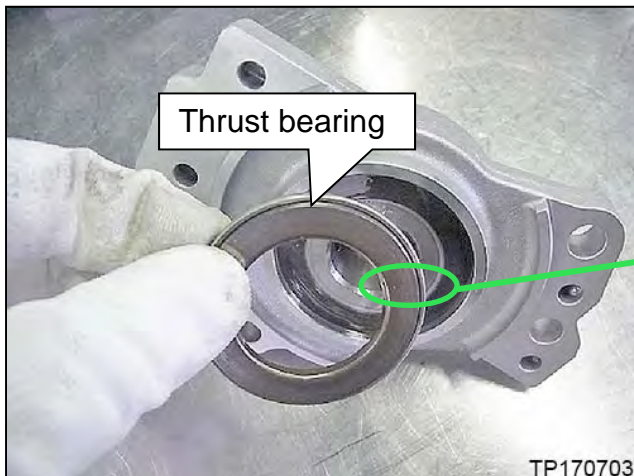
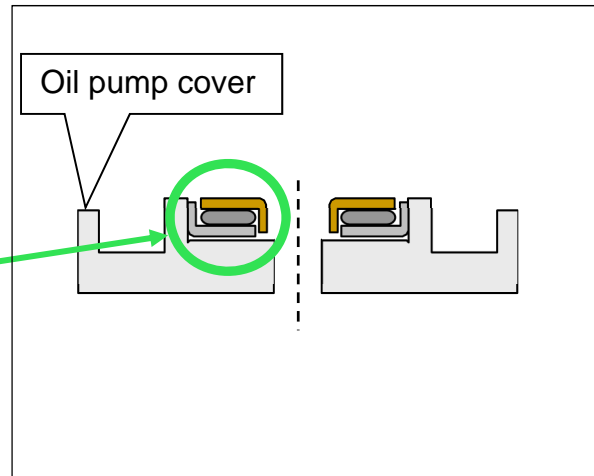

Figure 124
Figure 125
- g. Install the original thrust bearing in the correct orientation as shown in Figure 124 and Figure 125.